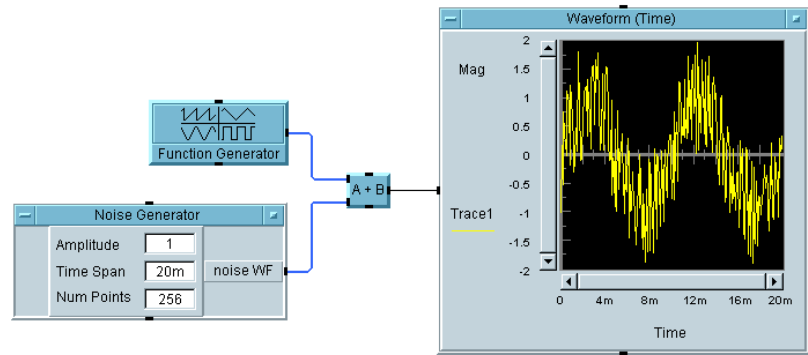

Figure 1-37. Example: Adding a Noise Generator Object
Add a “noisy sine wave” by adding a Noise Generator object to `simple-program.vee`, as shown in Figure 1-37.
5. Connect the input and output pins as shown in Figure 1-37.